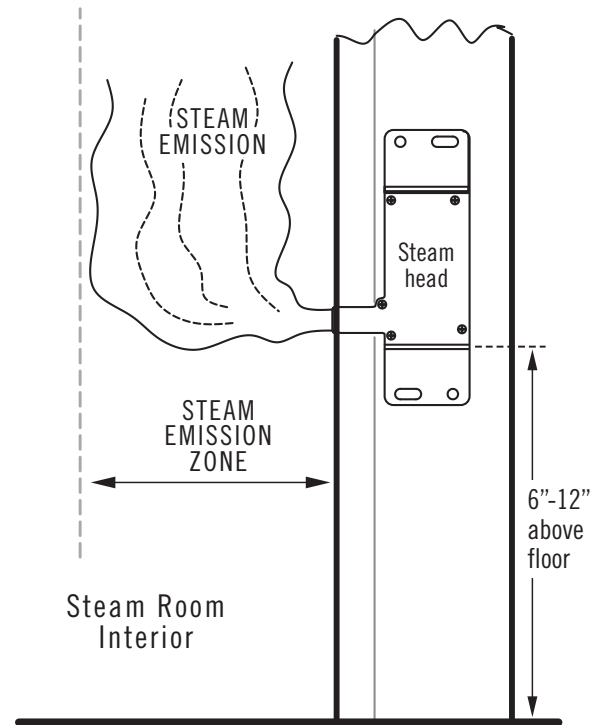

Figure 2
**⚠ CAUTION** Because steam emissions are very hot, locate the steam head where incidental contact by the bather with direct steam emission cannot occur. Do not locate the steam head in any location where the steam emission zone is near a seat, bench or any space occupied by any persons. See Fig. 2 for a diagram of the steam emission zone. Failure to follow these instructions may result in a hazardous condition, scalding or personal injury.
**STEP 1.** Locate the steam head 6-12" above the finished floor. Do not locate the steam head in any location where the steam emission zone is near a seat, bench, or any space occupied by any persons. See Fig. 2 for a diagram of the steam emission zone.